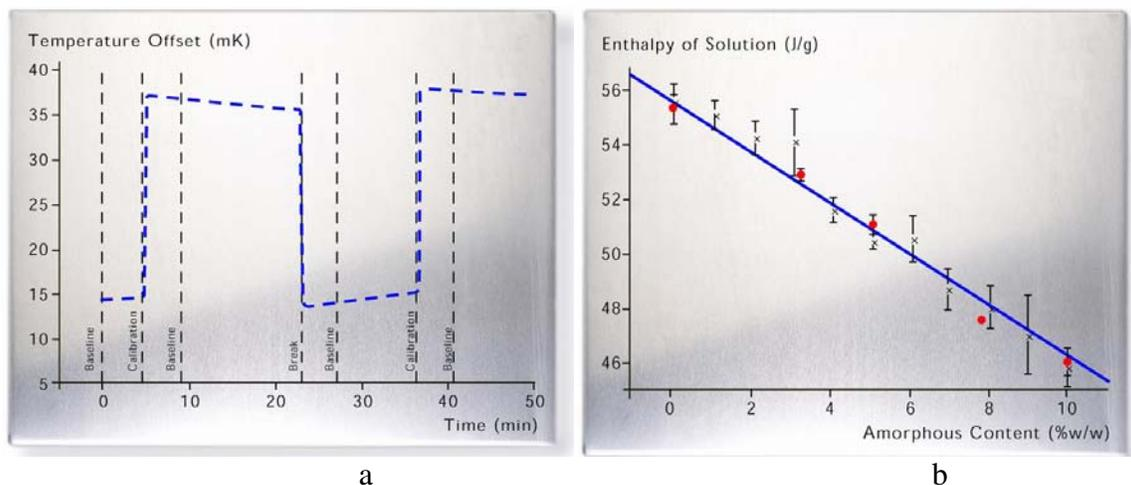

Figure 8: Typical Solution Calorimetry Results, and Calibration Data for Lactose
The graphs in Figure 8 show the output from SolCal for a 5% amorphous fraction of lactose (3). In Figure 8a, the y-axis shows temperature offset from the bath temperature, which was 25 °C. The central “break” section shows the temperature decrease as a result of dissolving the sample in water. The other two step transitions on either side are calibrations. After, calibration, the heat of dissolution can be accurately determined. By comparing the measured heat to the literature values shown in Figure 8b, the amount of amorphous content can be clearly defined.